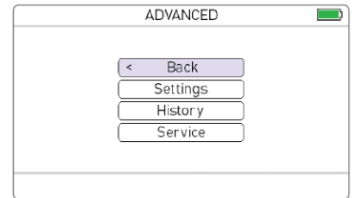

Figure 46. Advanced
- At ADVANCED (see figure 46) select Service with .